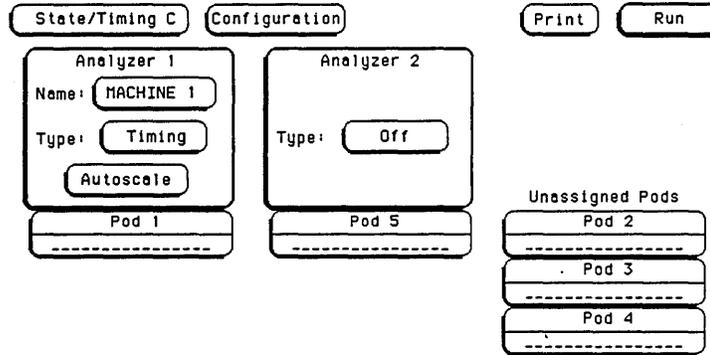

Figure 3-39. Configuration Screen
2. Set up the **Configuration** screen for assigning pod under test to **Analyzer 1** as in figure 3-39. Follow steps a and b if unfamiliar with menus.